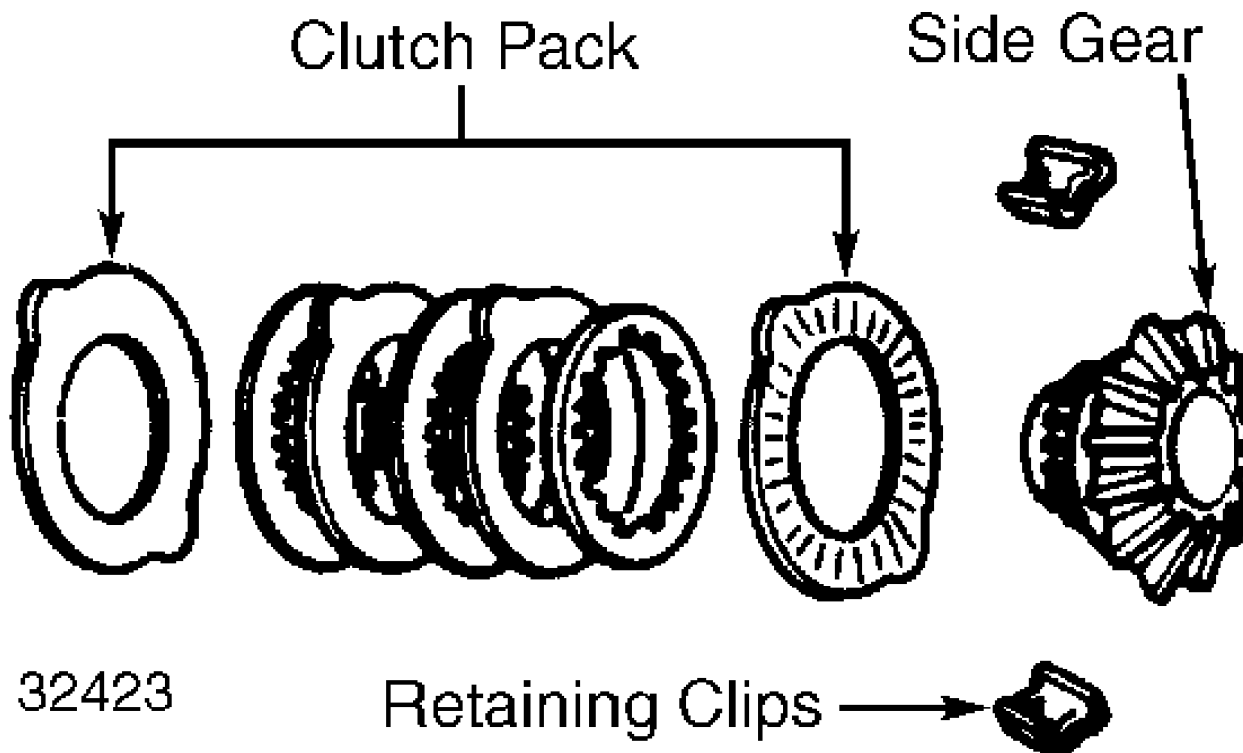

Fig. 3: Typical Clutch Pack Assembly
1) Lightly lubricate clutch pack discs with axle lubricant. Assemble clutch pack discs and install retaining clips on ears of discs. See Fig. 3. Install assembled clutch packs on side gears.